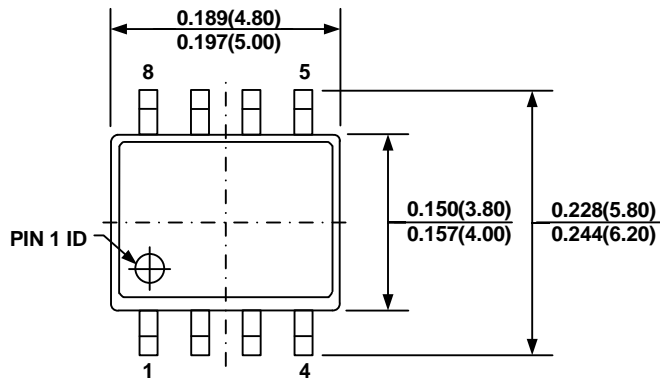

**Figure 5: Voltage Sensing for VD/SENSE**
Efficient PCB layout is critical for stable operation. For best results, refer to Figure 4 and Figure 5, and follow the guidelines below:
1. Connect the SENSE pin to a different position for an adjustable turn-off time during the fast transients in CCM. The further the junction point is from the VD, the earlier the SR turns off (see Figure 5).